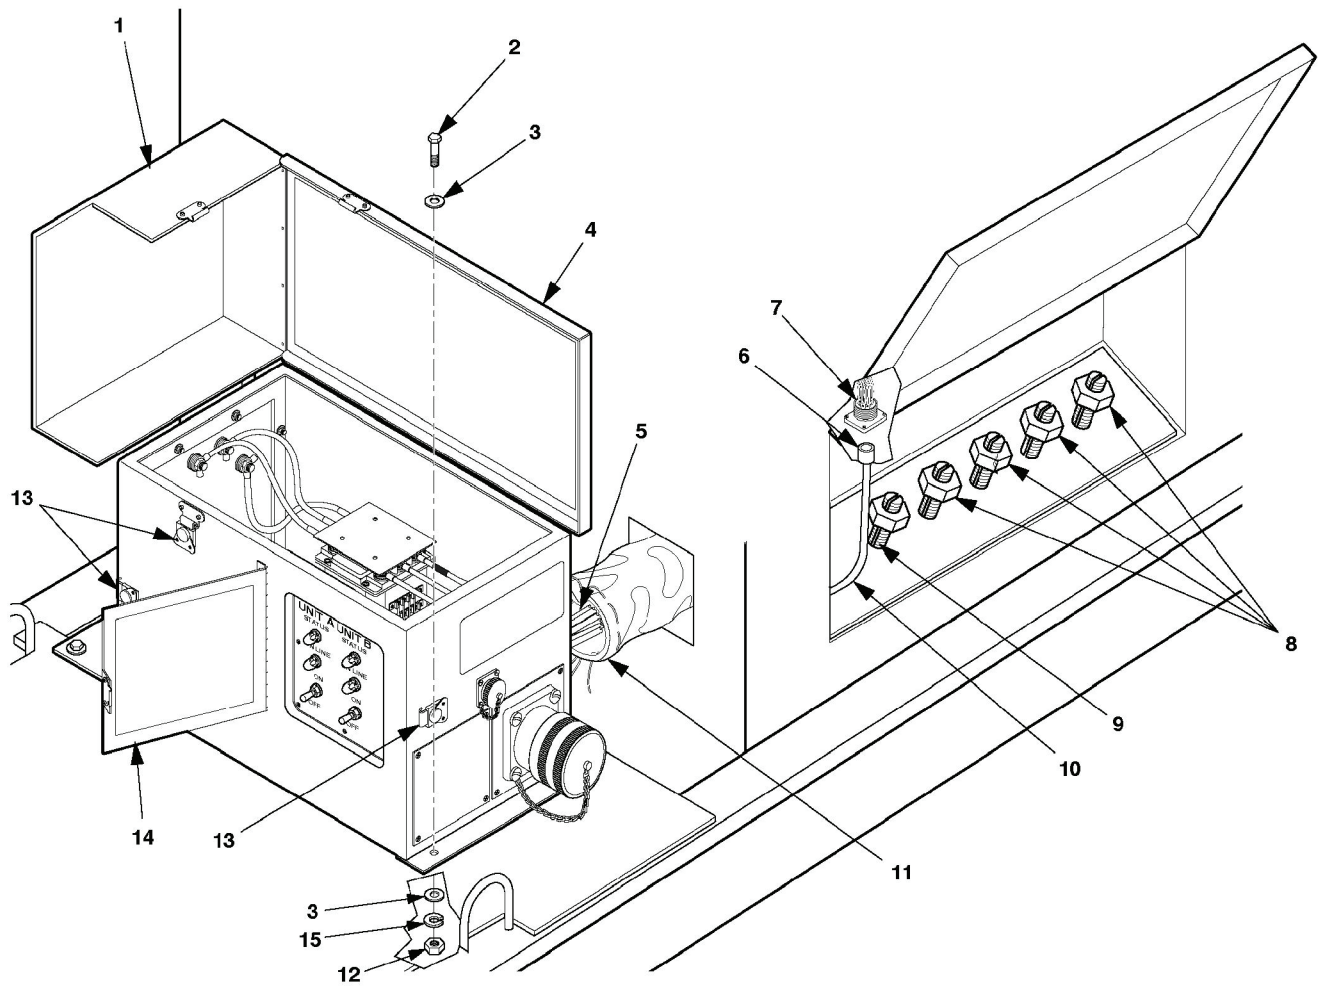

Figure 4-10.1. Switch Box Assembly Maintenance (Typical B&C Models)
1. Remove nuts (12, figure 4-10.1), lock washers (15), flat washers (3), and cap screws (2) that secure the switch box assembly. Discard lock washers (15).
2. Disconnect L1, L2, L3, and N from the generator set load terminals (8).
3. Disconnect GND from the generator set ground terminal (9).
4. Disconnect P1 (6) from J16 (7) of the generator set.
5. Remove switch box assembly, carefully pulling P1 (6) through the power cable sock (11).